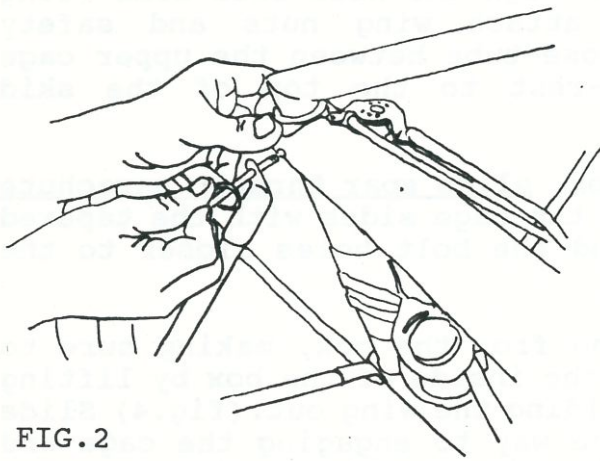
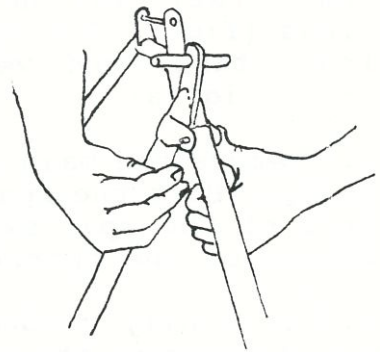

FIG. 2
FIG. 2a
2. Feed the cage-front bolts up through the nose-skid arms (long arm first) and hang-tubes, and attach wing nuts and safety rings.(fig.2) Pin the top of the nose-tube between the upper cage front tabs, and velcro the foot-rest to the top of the skid arms.(fig.2a)